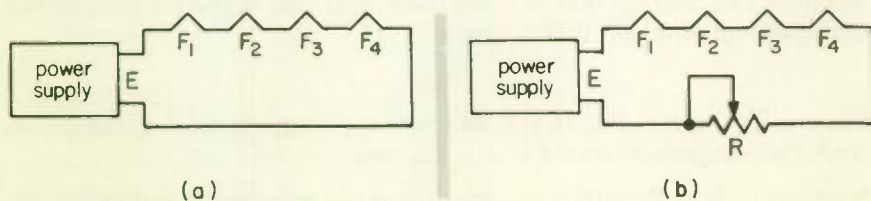

Fig. 45
6. Tube filaments are often operated in series. Figure 45(a) shows four identical filaments, F_1 , F_2 , F_3 , and F_4 , in series. If the proper operating voltage for each filament is 6.3 V, then the proper power supply voltage E is (a) 25.2 volts. If the actual power supply voltage is greater than this value, which is often the case, a resistor R , as shown in Fig. 45(b), can be connected in series to provide proper operation. If the voltage across R is 20 V, then the power supply voltage E should be (b) 45.2 volts for
EXAMPLE 1 . . . If R in Fig. 45(b) is $80\ \Omega$ and the current through filament F_1 is 0.5 A, the voltage drop across R is _____ volts.
EXAMPLE 2 . . . Assuming a current of 0.5 A, what value should R in Fig. 45(b) have in order that the voltage across it will be 20 V?